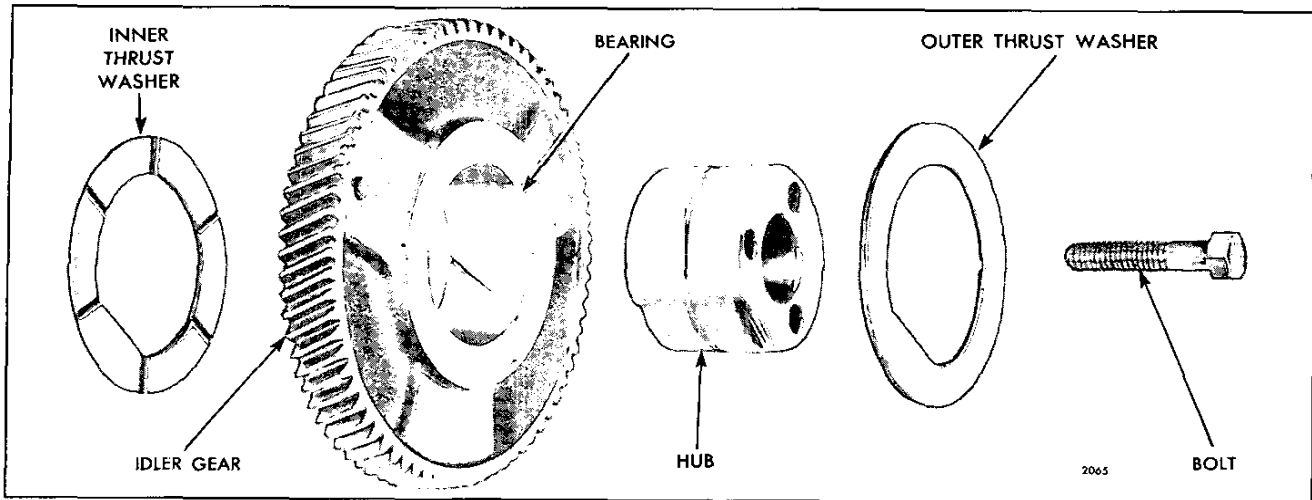

Fig. 2 - Idler Gear Details and Relative Location of Parts
7. With these timing marks in alignment, install the idler gear (Fig. 2).